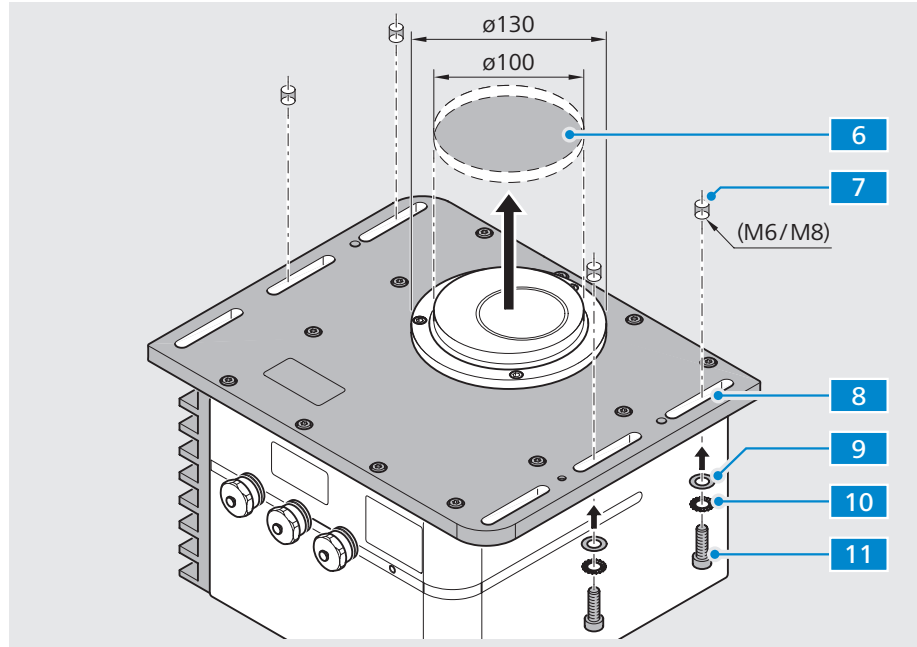

Fig. 9 Mounting the Corona extreme
- Prepared customer mechanical interface (see Fig. 9 on page 21)